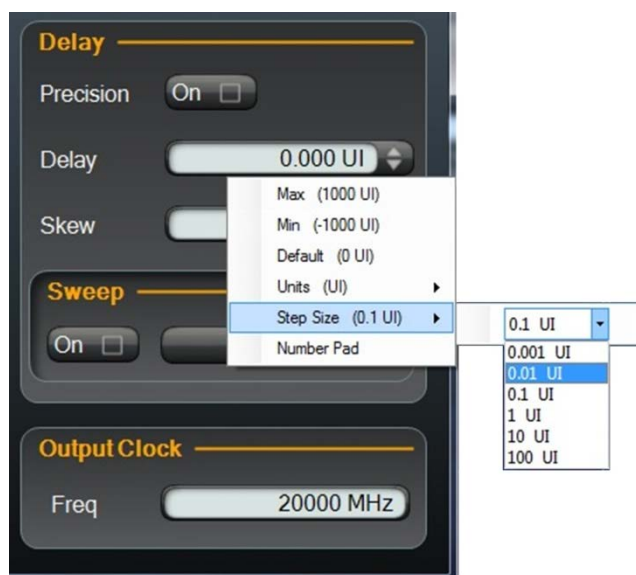

Figure 11. Setting delay step size
22. In the **Delay** numeric field in the **N4957A-C12** tab, increase the delay in 0.01 UI steps until the **Error** lights in the Multi-Channel BER screen begin to turn on and note the N4957A-C12 delay number. Refer to Figure 11.